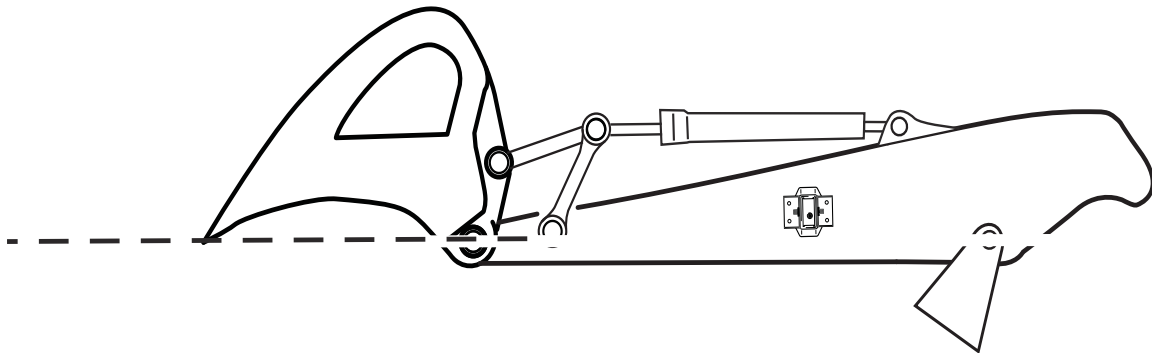

Figure 36: Pitch 0.0°
7. To correctly set the **Roll**, move the stick up in the air until the **Pitch** reads zero (0.0°) (Figure 36).